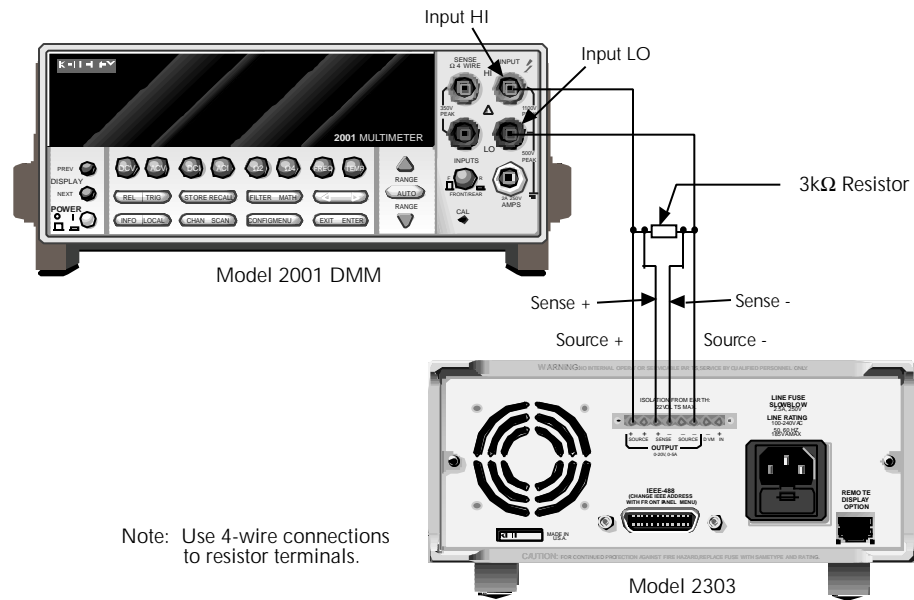

Figure 1-4
1. With the power off, connect the digital multimeter and characterized 3kΩ resistor to the Model 2303 or 2303B OUTPUT SOURCE terminals, as shown in Figure 1-4. Be sure to observe proper polarity and connections (3kΩ resistor between SOURCE + and DMM INPUT HI; SOURCE - to DMM INPUT LO).